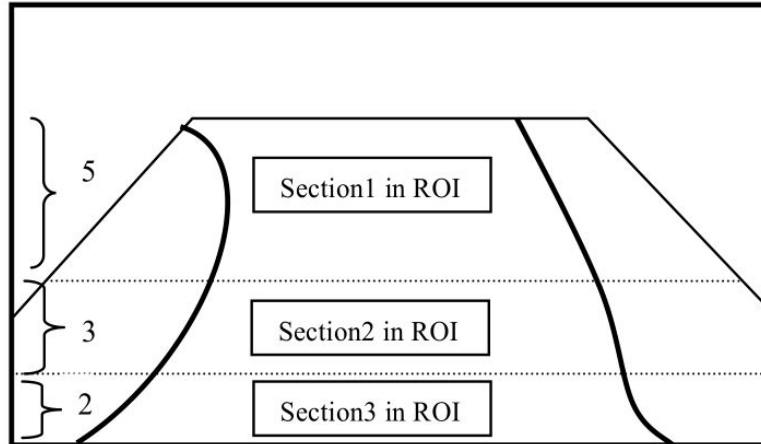

Fig 6: Division of region of interest in 2:3:5
- Suppose there is a left turn as shown here (figure 6)